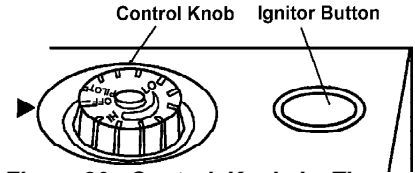

Figure 20 - Control Knob In The OFF Position
4. Wait five(5) minutes to clear out any gas. Then smell for gas, including near the floor. If you smell gas, STOP! Follow "B" in the safety information on the side of heater. If you don't smell gas, go to the next step.
5. Turn control knob counterclockwise ↻ to the PILOT position. Press in control knob for five(5) seconds. (see Figure 20).